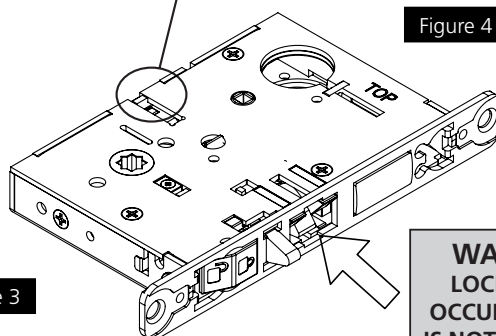

Figure 3
4. Push in latch until tail-piece hits back of case (Figure 3)